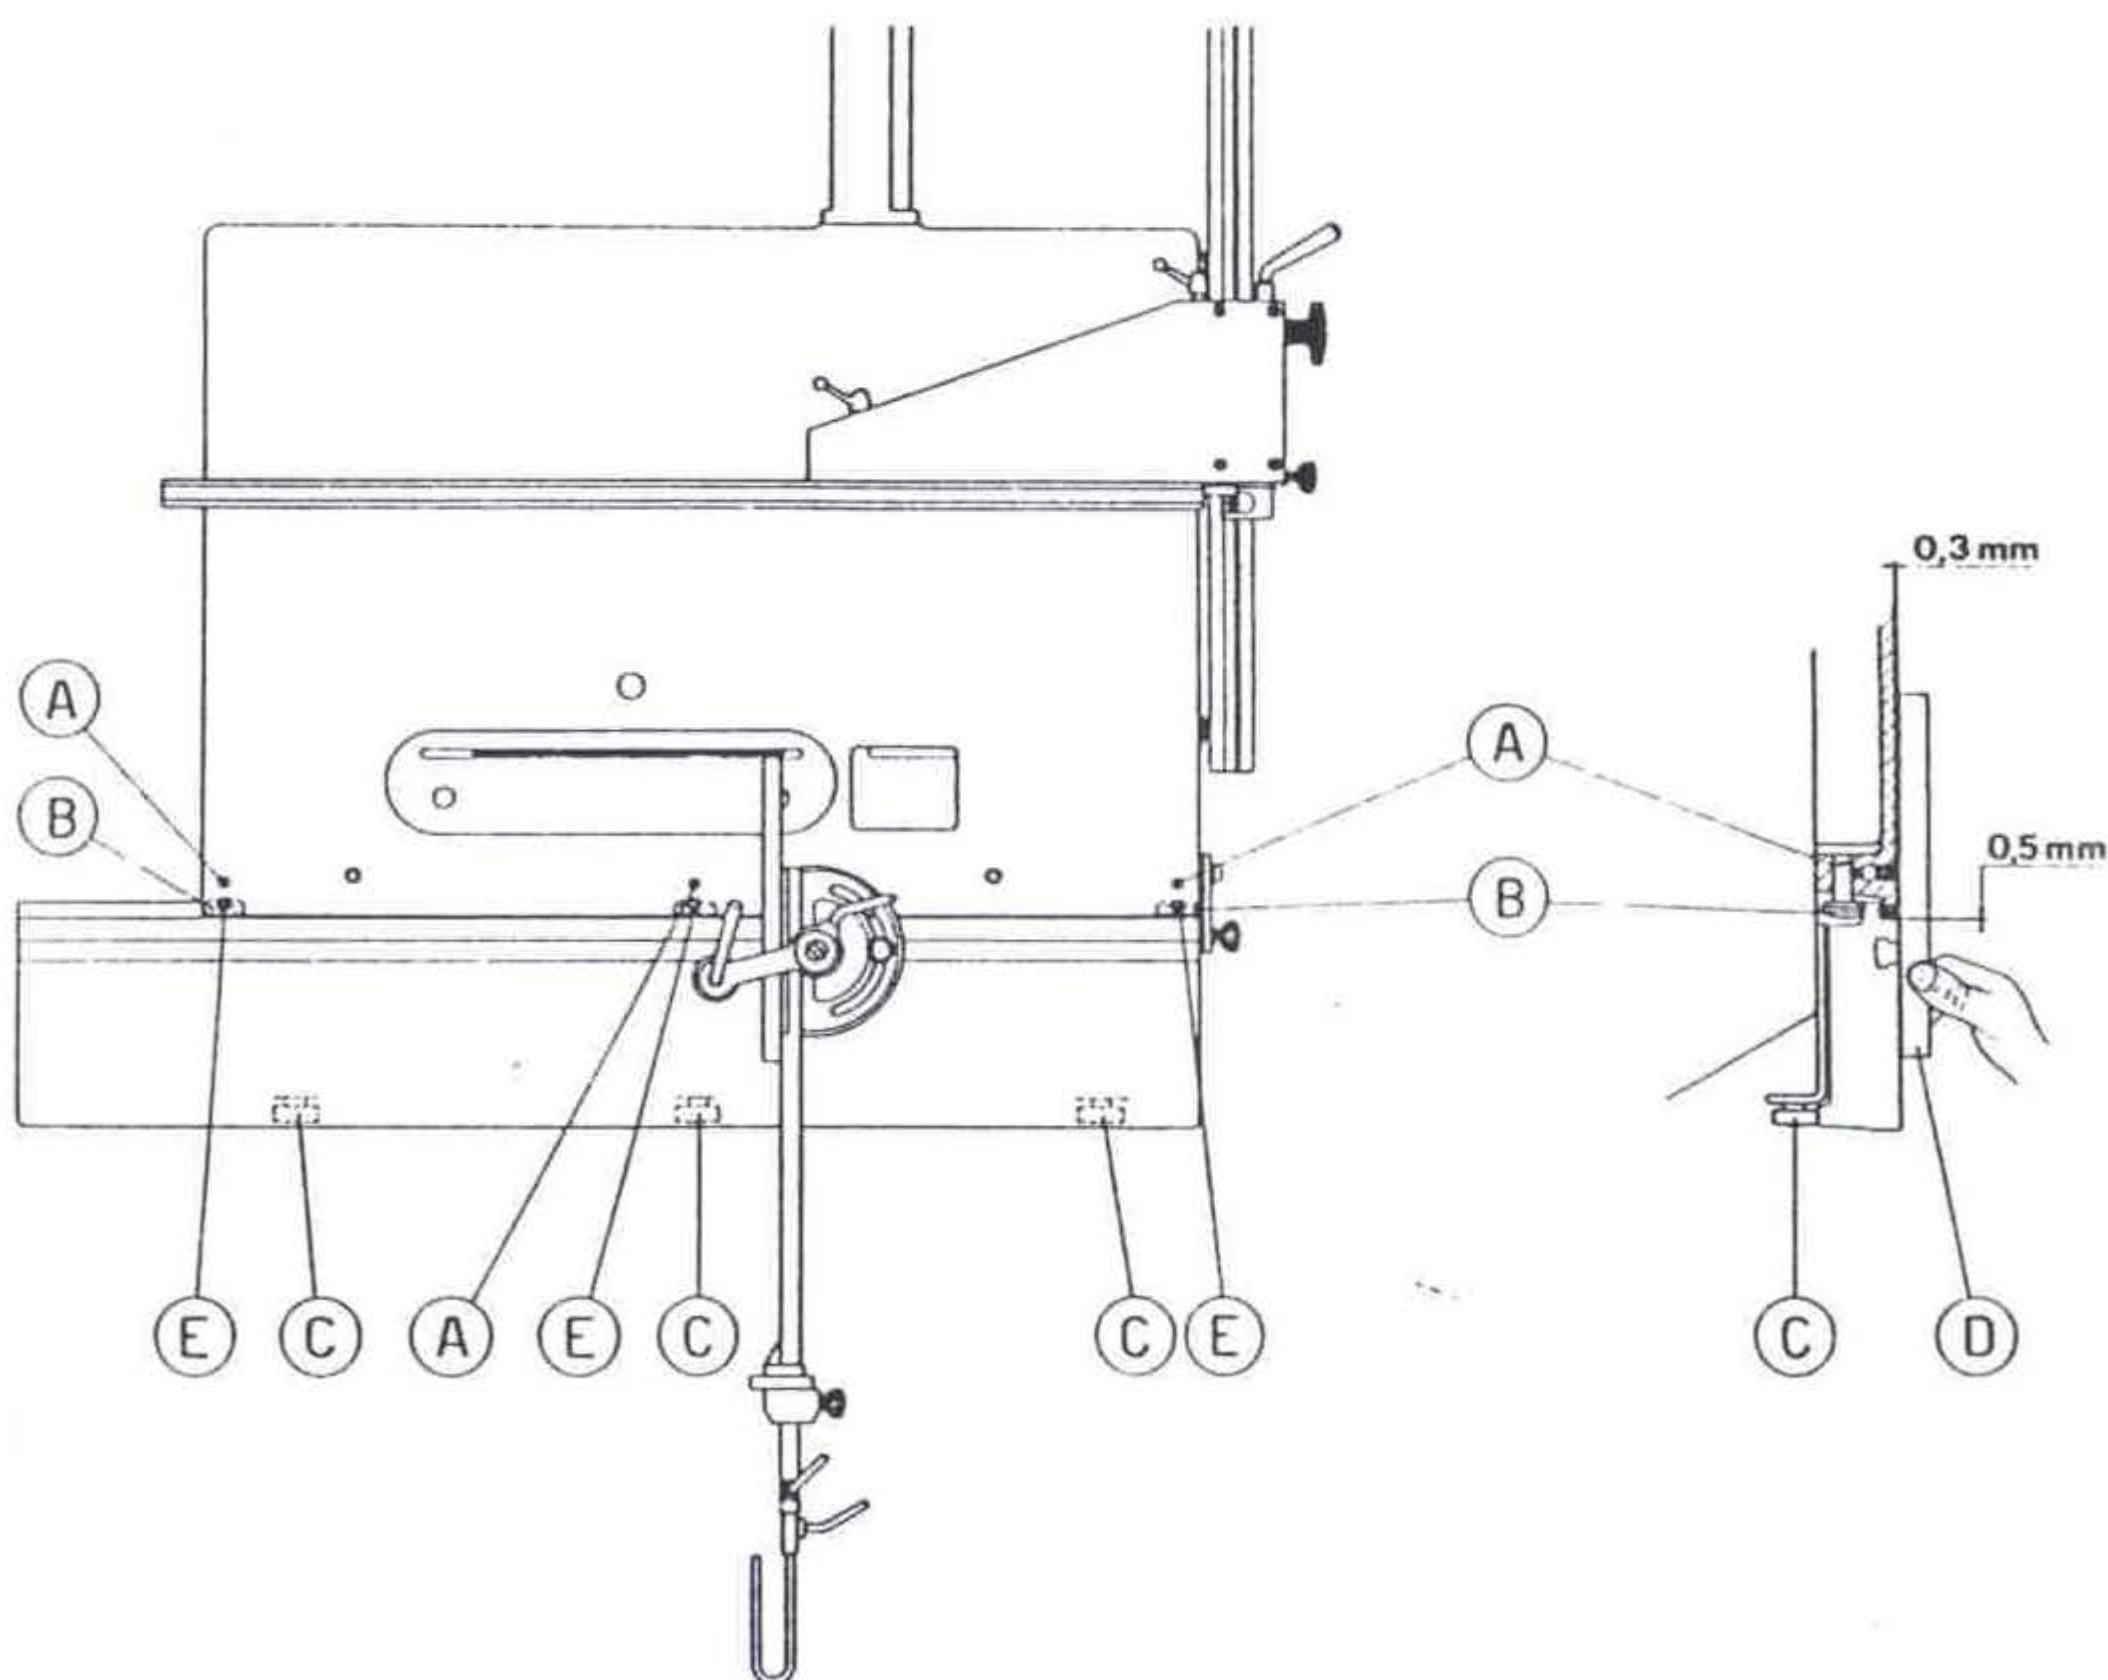

Fig. 13
## IX ADJUSTMENT OF THE SLIDING TABLE (fig. 13) SI15F - SI15FS
- Remove plastic taps by means of a nail and with an Allen key 5 mm, loosen the screws (A) fig 13 fixing the V-shaped ball bearings and release them.
- Rotate the eccentrics of the end V-shaped ball bearings (B) until the sliding table is 0,3 mm over the fixed table's head.
- Now adjust the three external ball bearings (C) until both tables are parallel. This can be checked by using a rule (D).
- After this operation tighten the bronze screws (E) and adjust the central ball bearing until it settles in its groove completely.
- Finally, untighten the screws (E) so much as to allow a good sliding facilitated by a few drops of oil on the ways.